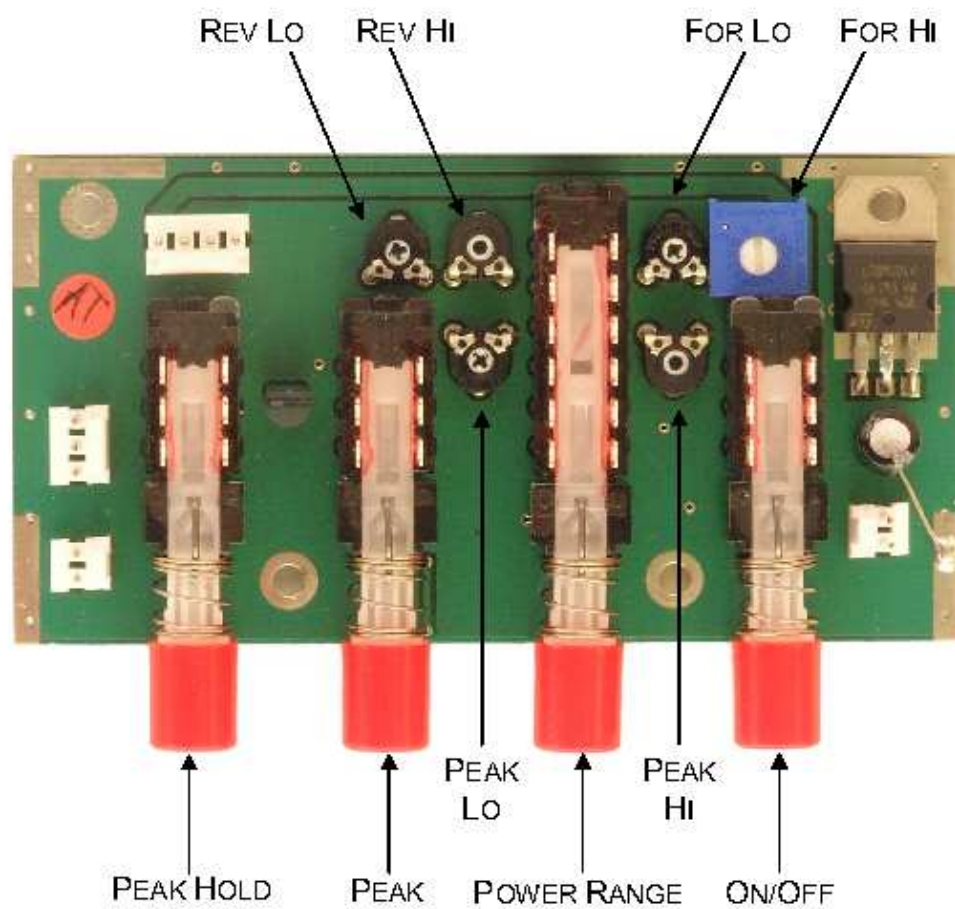

Figure 1.8: Meter Board Adjustment Locations
- Apply a 100 W CW carrier to the AT-AUTO_(tm) and adjust the **FOR LO** potentiometer (Figure 1.8, page 14) so that the AT-AUTO_(tm)'s forward power indication matches that shown on the calibrated Wattmeter.
- Reapply the 100 W CW carrier to the AT-AUTO_(tm) and adjust the **PEAK LO** potentiometer (Figure 1.8) so that the AT-AUTO_(tm)'s forward power indication matches that shown on the calibrated Wattmeter.
- Apply a 1000 W CW carrier to the AT-AUTO_(tm) and adjust the **PEAK HI** potentiometer (Figure 1.8) so that the AT-AUTO_(tm)'s forward power indication matches that shown on the calibrated Wattmeter.
Reapply the 1000 W CW carrier to the AT-AUTO_(tm) and adjust the **FOR HI** potentiometer (Figure 1.8) so that the AT-AUTO_(tm)'s forward power indication matches that shown on the calibrated Wattmeter.
Apply a 200 W CW carrier to the AT-AUTO_(tm) and adjust the **REV HI** potentiometer (Figure 1.8) so that the AT-AUTO_(tm)'s reflected power indication matches the forward power displayed on the calibrated Wattmeter.
Apply a 20 W CW carrier to the AT-AUTO_(tm) and adjust the **REV LO** potentiometer (Figure 1.8) so that the AT-AUTO_(tm)'s reflected power indication matches the forward power displayed on the calibrated Wattmeter.